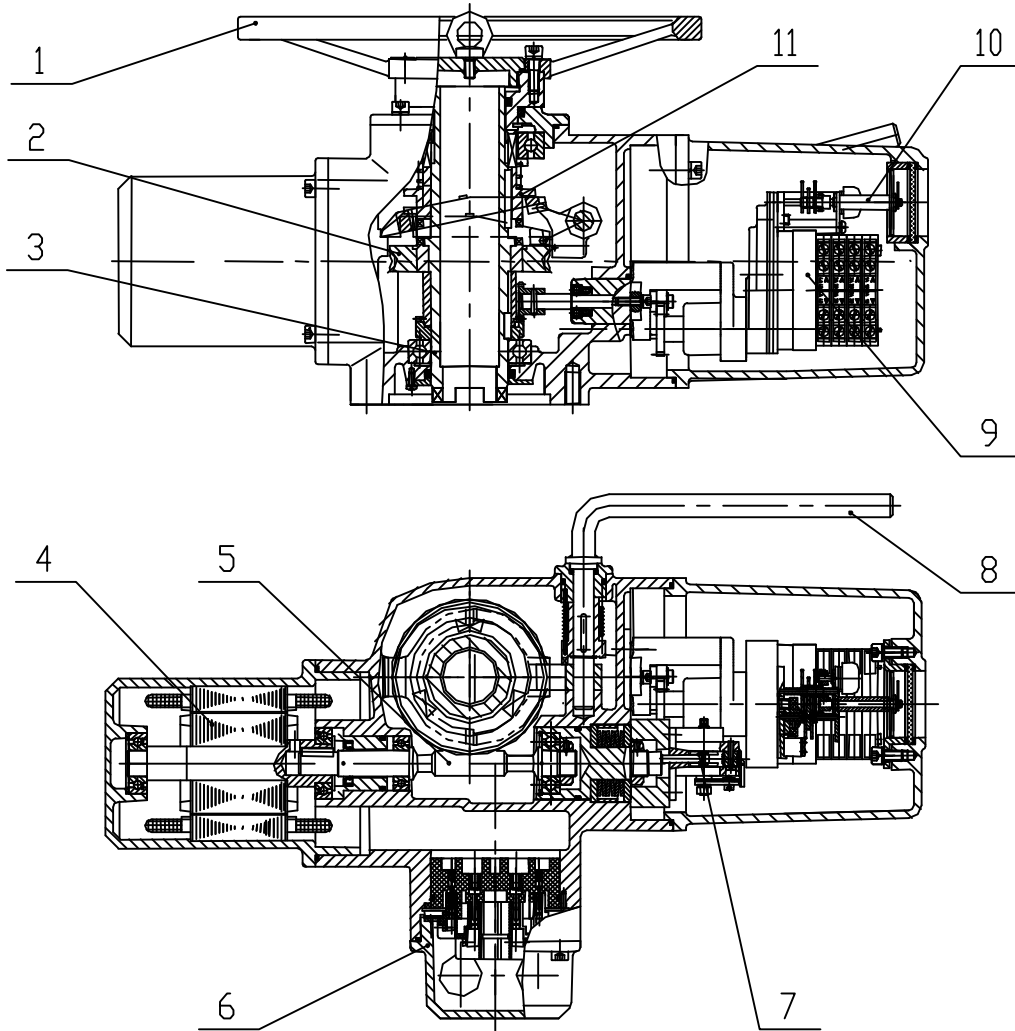

图 1 HZD2.5~HZD120 结构图 Fig. 1 Structure of HZD2.5~HZD120
1. 输出转矩 $25\text{N}\cdot\text{m}\sim 1200\text{N}\cdot\text{m}$, 为单级 1E 级电装, 见图 1 The specifications with output torque of $25\text{N}\cdot\text{m}\sim 1200\text{N}\cdot\text{m}$ are individual actuators of Class 1E (refer to Fig. 1).